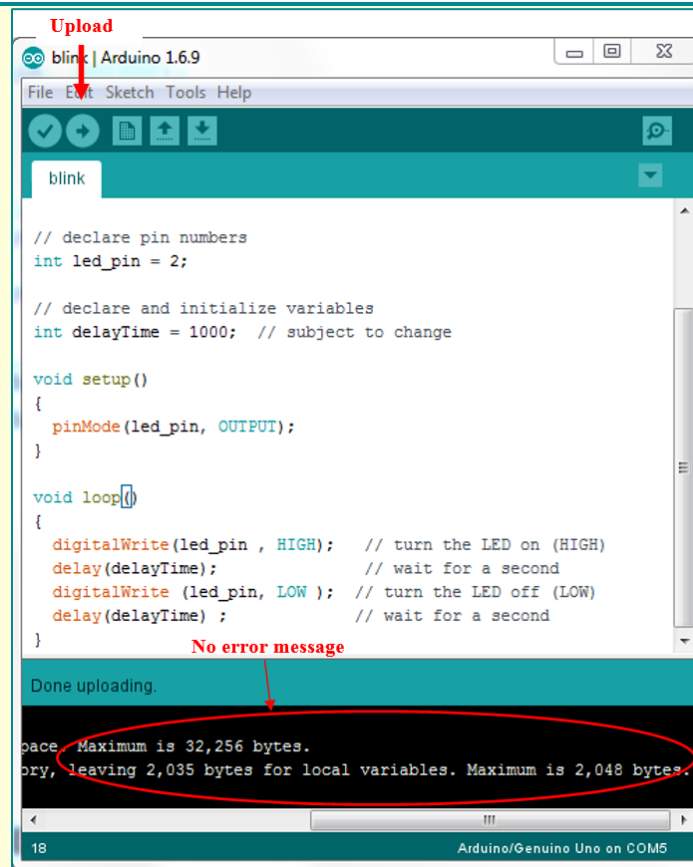

Figure 3-9. Uploading the code to the Arduino.
9. Upload the code to the Arduino. The console message should not show any error messages when the upload process is successful (see Figure 3-9).